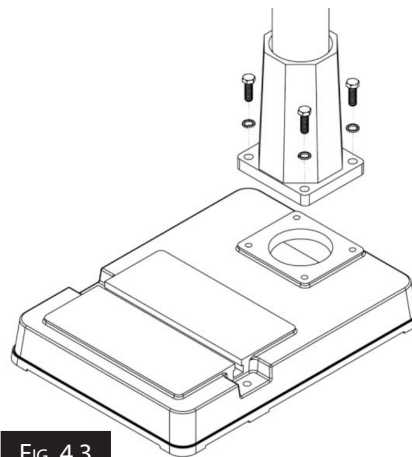

FIG. 4.3
2. Using a 19mm spanner secure the column to the base with the four hex bolts and spring washers, (Fig. 4.3)